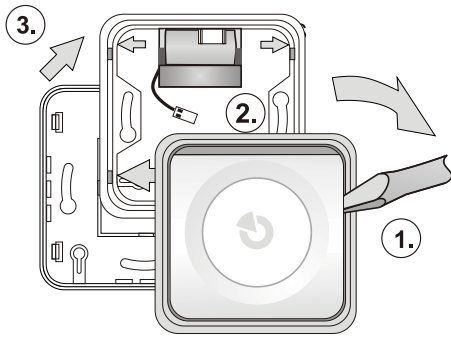

Figure 1: Disassembly of the siren before installation
1. Remove the body (buttons) of the siren from the plastic frame by pressing on a side of the body (1.) using a screwdriver as shown in figure 1.
4. Attach the plastic base to the selected place using screws. Place the BAT-3V2-CR2 battery underneath the top side of the plastic base as shown in figure 1.
A battery is included, however it is not factory-fitted in the siren therefore it needs to be inserted into the device. The battery recharges in a standard way (see *Technical specifications*). When replacement is necessary, it is possible to order the BAT-3V2-CR2 replacement battery. Connect it to the connector (see figure 1, point 2). The siren automatically detects whether the battery is connected and performs diagnostics. The measured values are then displayed in the F-Link software. The siren monitors its own battery status and informs a user (alternatively the service technician) when the battery is close to being depleted. The device continues in its function however it is recommended to replace the battery within 2 weeks. Use the BAT-3V2-CR2 type of battery specifically.